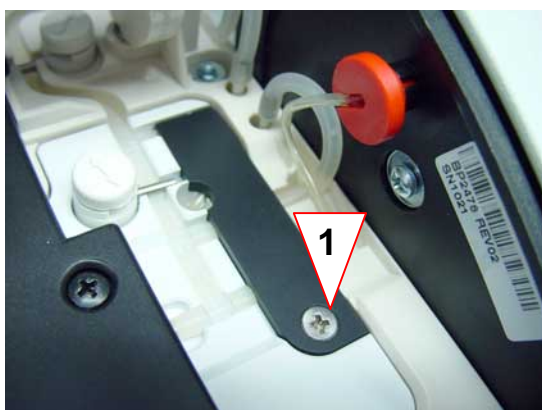

Fig. 3-18 Sample sensor cover
5. Open the screw of the sample sensor cover (see Fig. 3-18, 1) and remove the cover.